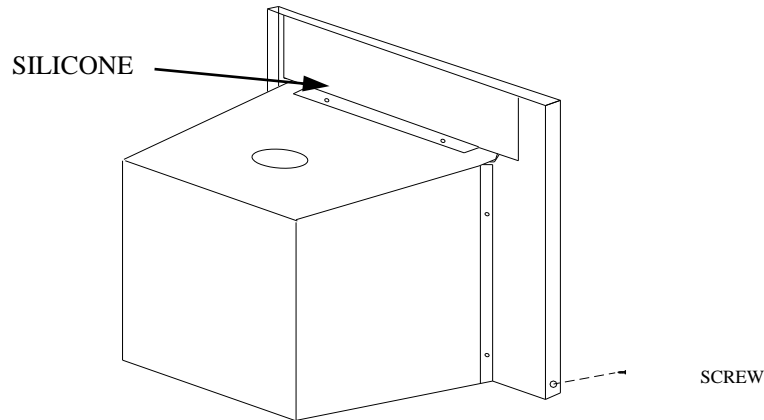

FIGURE 4
13. Next using high heat silicone or furnace cement run heavy bead of caulking around where panels meet stove. (See Figure 4).